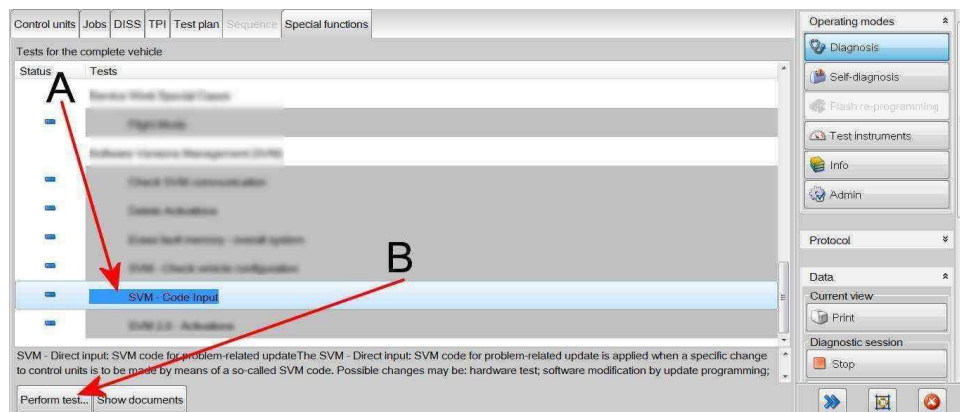

Figure1
- Within the Special functions tab - Select SVM Problem related Hardware/Software update then select Perform test (Figure 1).
- Within the Special functions tab select SVM Problem related Hardware/Software update then select Perform test (Refer back to Figure 1)